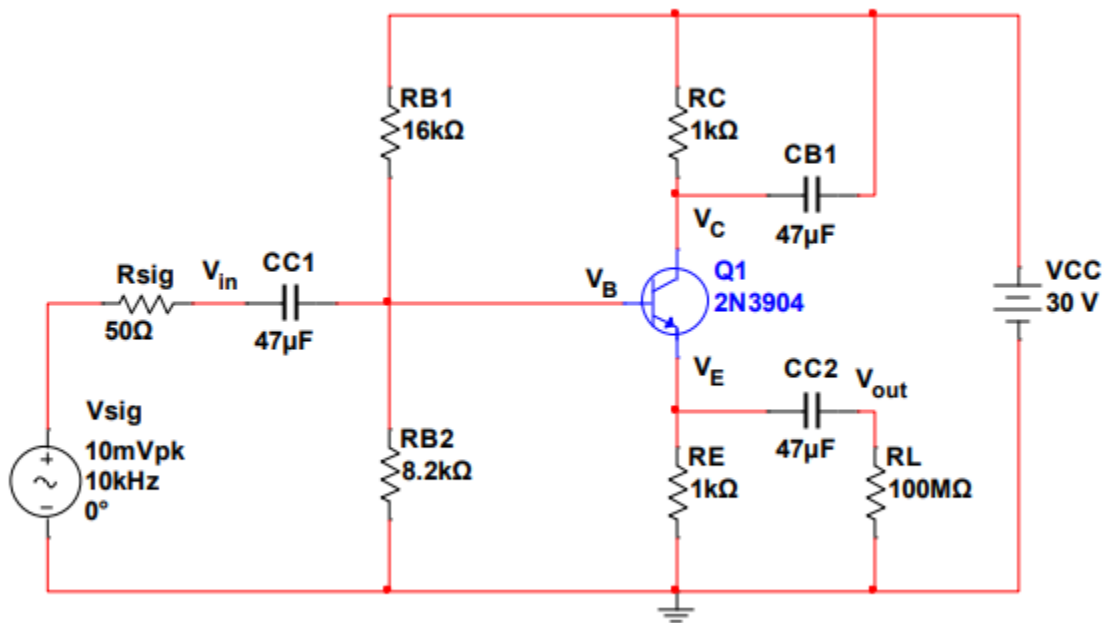

Figure 3.1 – Common Collector Amplifier
1. **Build** the circuit in **Figure 3.1** using transistor 2N3904.